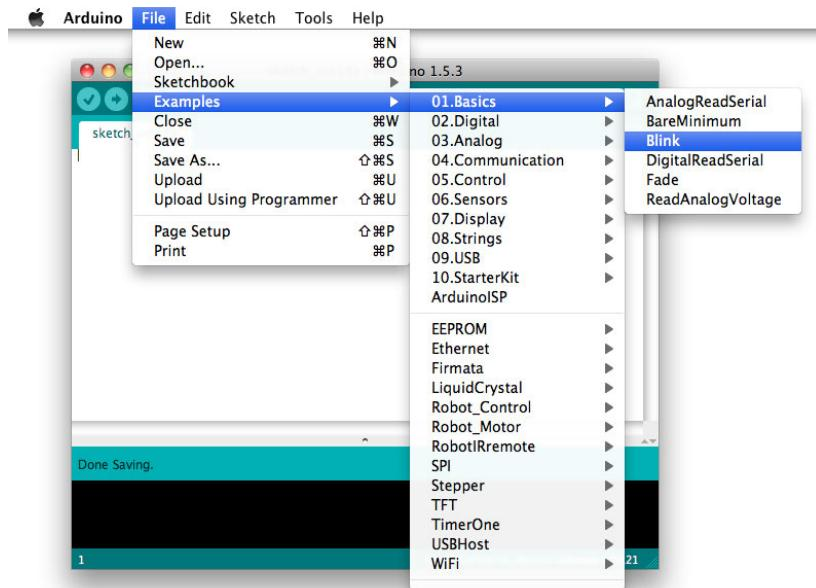

Figure 2-7. Navigating through the examples menu to open the Blink example
1. Within the IDE, click File→Examples→01.Basics→Blink. See Figure 2-7.